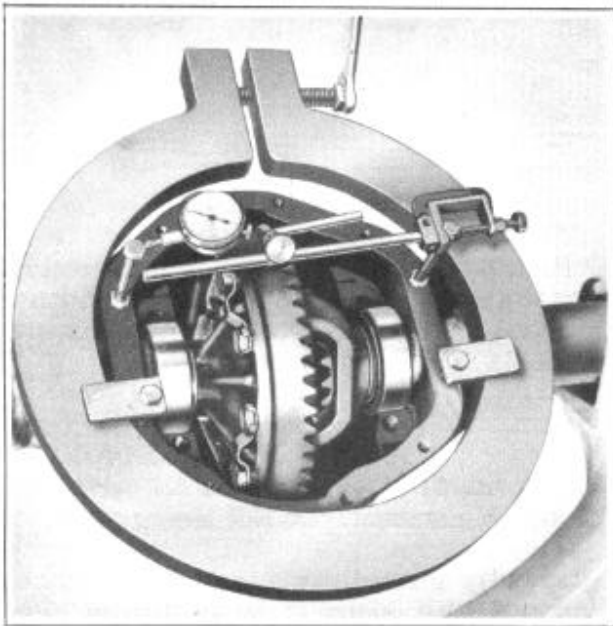

FIGURE 40
30. Turn screw on housing spreader J-5231 and with dial indicator mounted as shown in Figure 40, spread housing .020" to permit installation of differential. (Do Not spread more than this amount.)